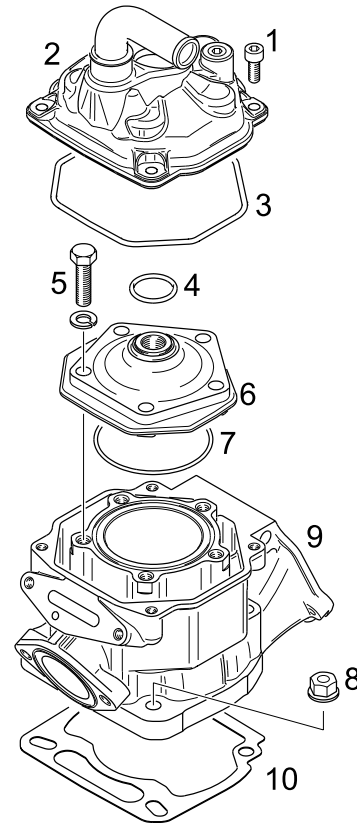

Figure 8
- ⇒ Remove 4 Allen screws M6 (1) (fig. 8)
- ⇒ Remove the cylinderhead cover (2)
- ⇒ Take off both O-rings (3) and (4)
- ⇒ Remove 5 Allen screws M8 (5) and lock washers
- ⇒ Remove the combustion chamber insert (6) and O-ring (7)